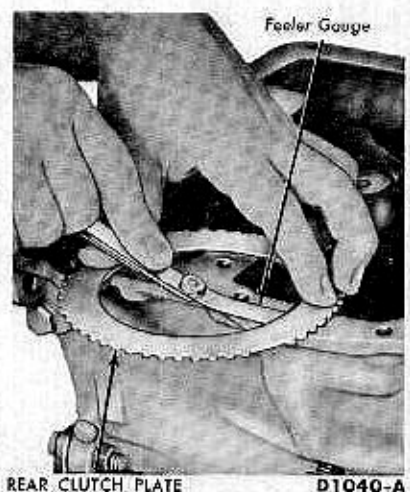

FIG. 13—Checking Rear Clutch Plate Coning
10. Position the steel plates on a flat surface. Then check the coning with a feeler gauge (Fig. 13). The plates are coned to 0.010-inch clearance.